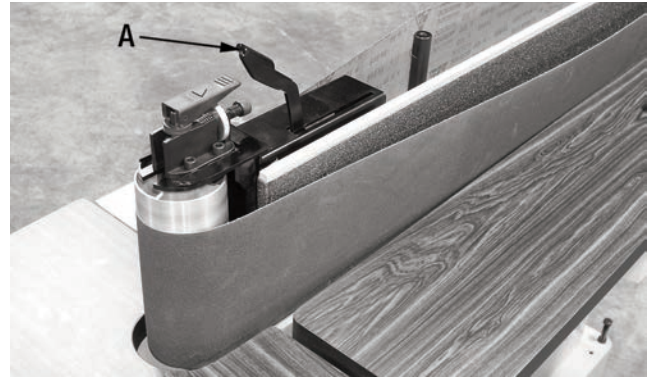

FIGURE 12
- 3) Pull the tension lever (A) Fig.12 completely to the left “loose” position as shown.
- 6) Place and centre the new sanding belt around both rollers. Tension the sanding belt by pulling the tension lever (A) Fig.12 completely to the right “tensioned” position.